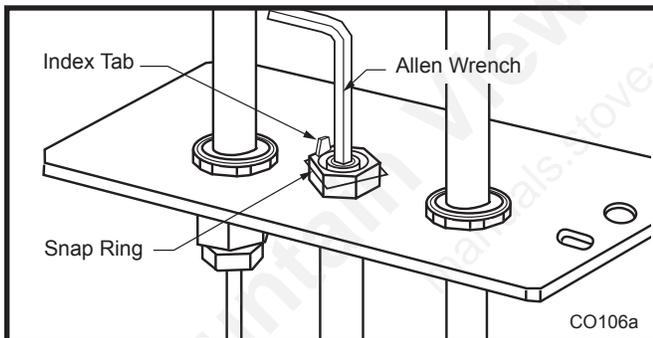

Fig. 73 Remove pilot orifice.
2. Remove pilot orifice with Allen wrench. (Fig. 73)